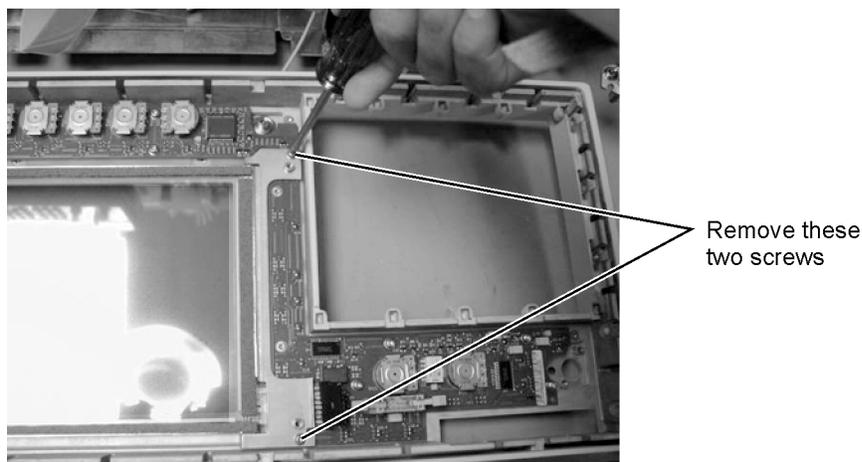

Figure 4-24. Removing the Touch Screen Screws
- 5 Use a T-10 TORX driver to remove the two screws from the touch screen board, as shown in Figure 4-24, then lift bracket out of front panel.